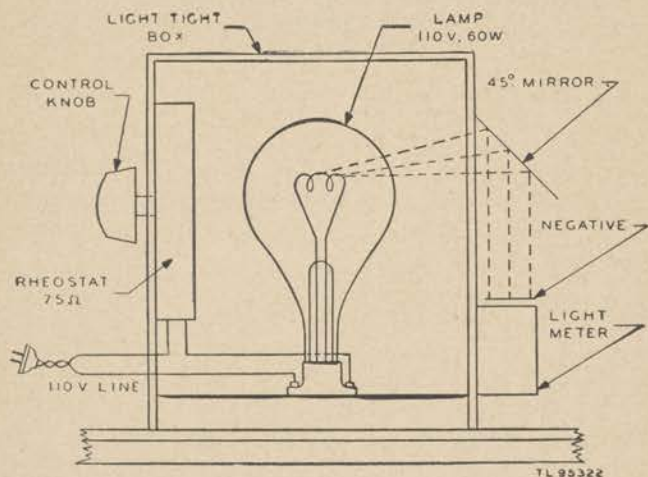

Figure 9. Charting meter lamphouse—cut-away view.
10. Evaluating Film Densities (figs. 9 and 10)
a. GENERAL. Before successful printing can be accomplished from a roll of film, the density of the film must be known. A densitometer may be used to take density readings of several places along the roll of film to determine the light transmitting quality of the film. The information obtained from the densitometer is then applied to exposure charts which have been established, and the printing equipment is adjusted accordingly to produce satisfactory prints. A charting meter for estimating rapidly the approximate light transmitting qualities throughout a 100-foot roll of film has been designed and built in the field by personnel of Photomail units. This charting meter consists of a light-tight box which contains a lamp and rheostat to provide adjustable illumination, and a light meter over which the film is passed. The box is constructed of wood and placed between the reels of a film rewinder. As the film passes over the window of the light meter at the rate of about 1 foot per second, the beam of light passes through the film to the cell of the meter (fig. 9). The light meter reads the intensity of the light in direct proportion to the light transmitting qualities of the film. Thin negatives, having low density readings, will cause the meter to register greater light value, while dark negatives of higher density will result in lower meter readings. In this manner, a chart